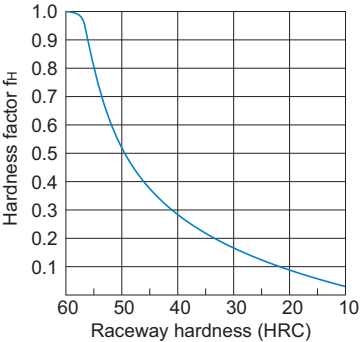

Fig.10 Hardness Factor (fH)
- C : Basic dynamic load rating (N)
- Pc : Calculated load (N)
- fH : Hardness factor (see Fig.10 on B1-75)
fH : Hardness factor (see Fig.10 on B1-75)